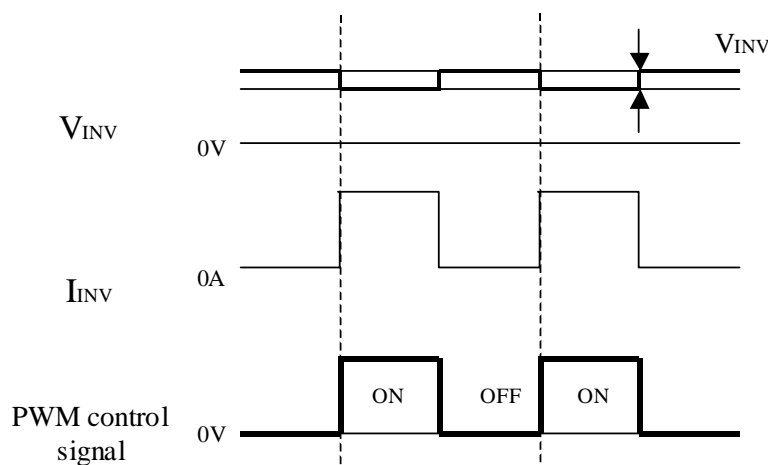

Fig.4 Brightness control voltage.
- Brightness control voltage is switched for "ON" and "OFF", as shown in Fig.4. Voltage difference generated by this switching, ΔV_{INV} , may affect a sound output, etc. when the power supply is shared between the inverter and its surrounding circuit. So, separate the power supply of the inverter circuit with the one of its surrounding circuit.